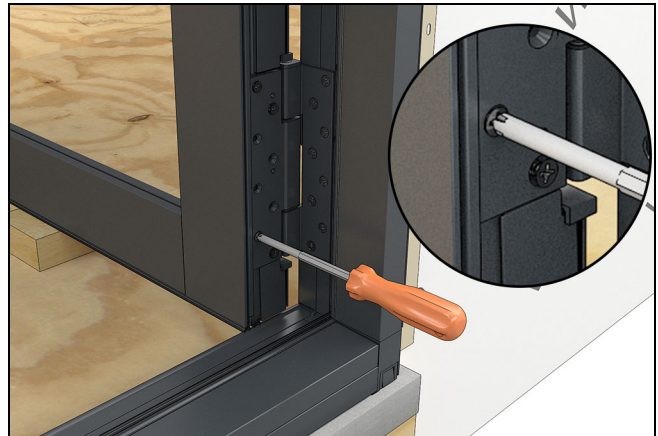

Figure 81
3. Use a hand screwdriver with a #2 Phillips bit to loosen the panel leaf screws. Turn the screws approximately 3 turns. See Figure 81.